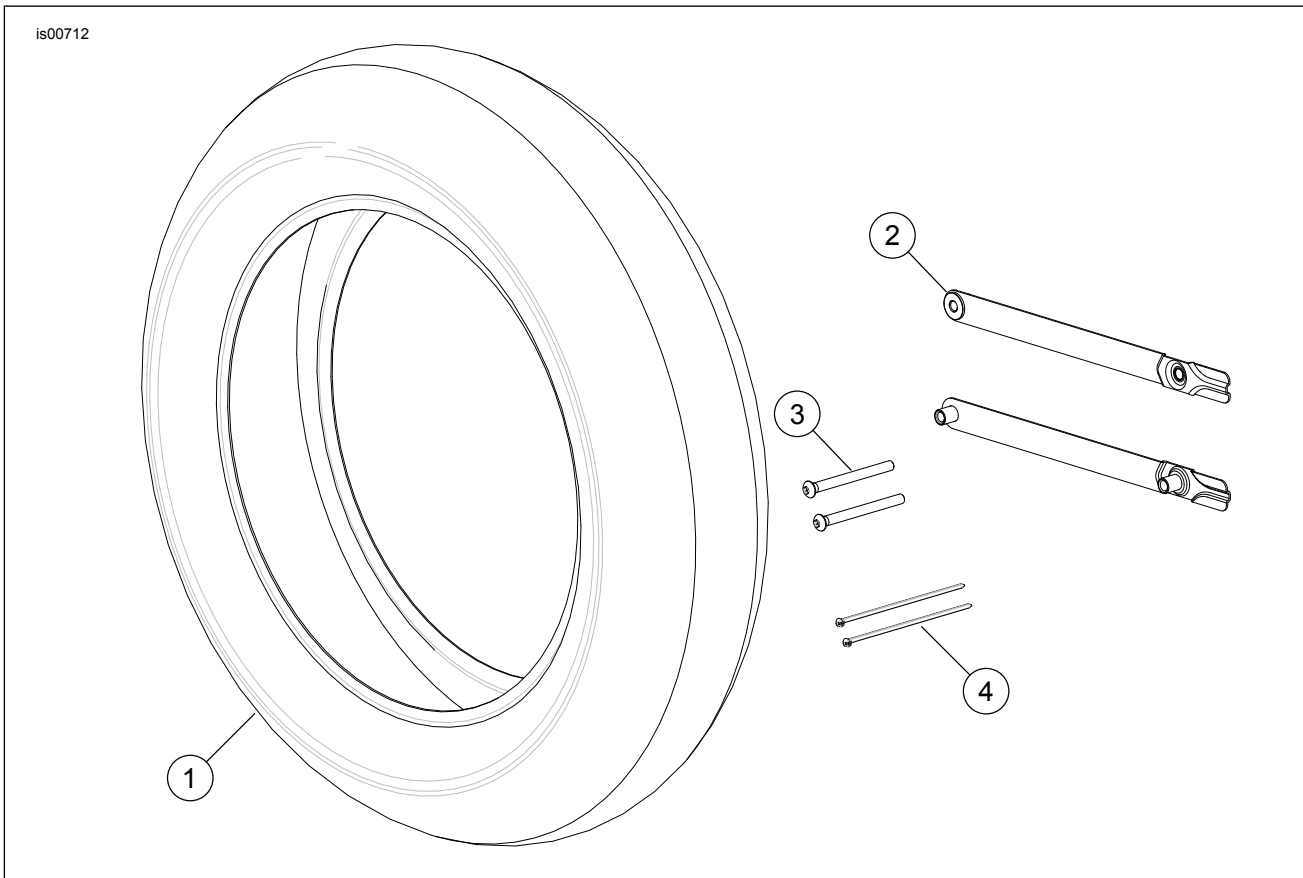

Figure 9. Service Parts for Wide Tire Kit
See Figure 9 and Table 1.
10. See Figure 9. Apply 2-3 drops of Loctite 243 (blue) to the screw (3) from the kit, route the turn signal wire into the fender and loosely install turn signal using the screw.